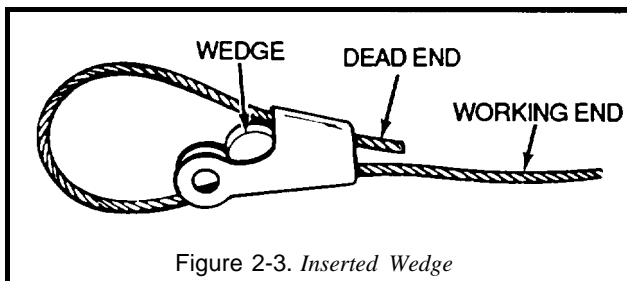

Figure 2-3. *Inserted Wedge*
2. Insert wedge and allow cable strands to adjust around it (Figure 2-3).